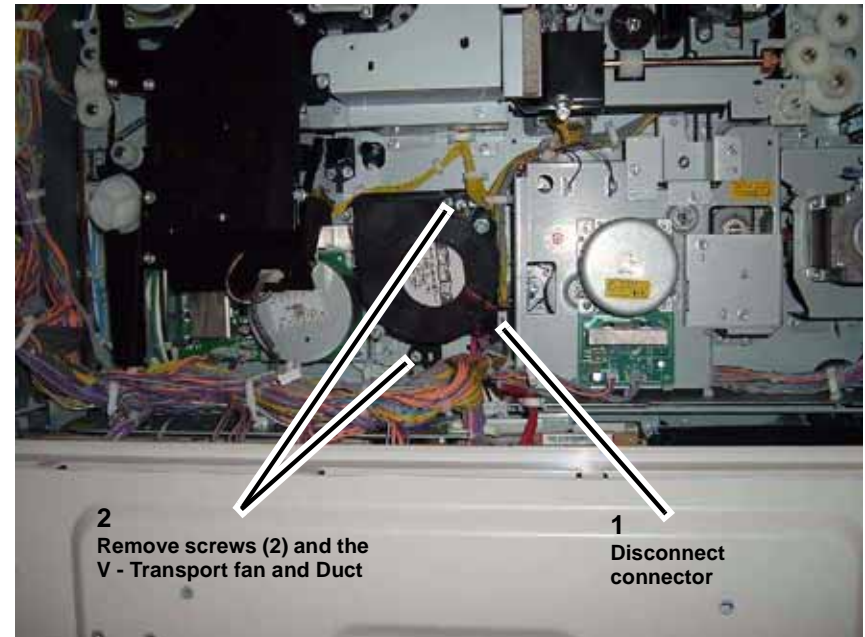

Figure 3 Removing the V - Transport Fan and Duct
4. Remove the V-Transport Fan and Duct (Figure 3).